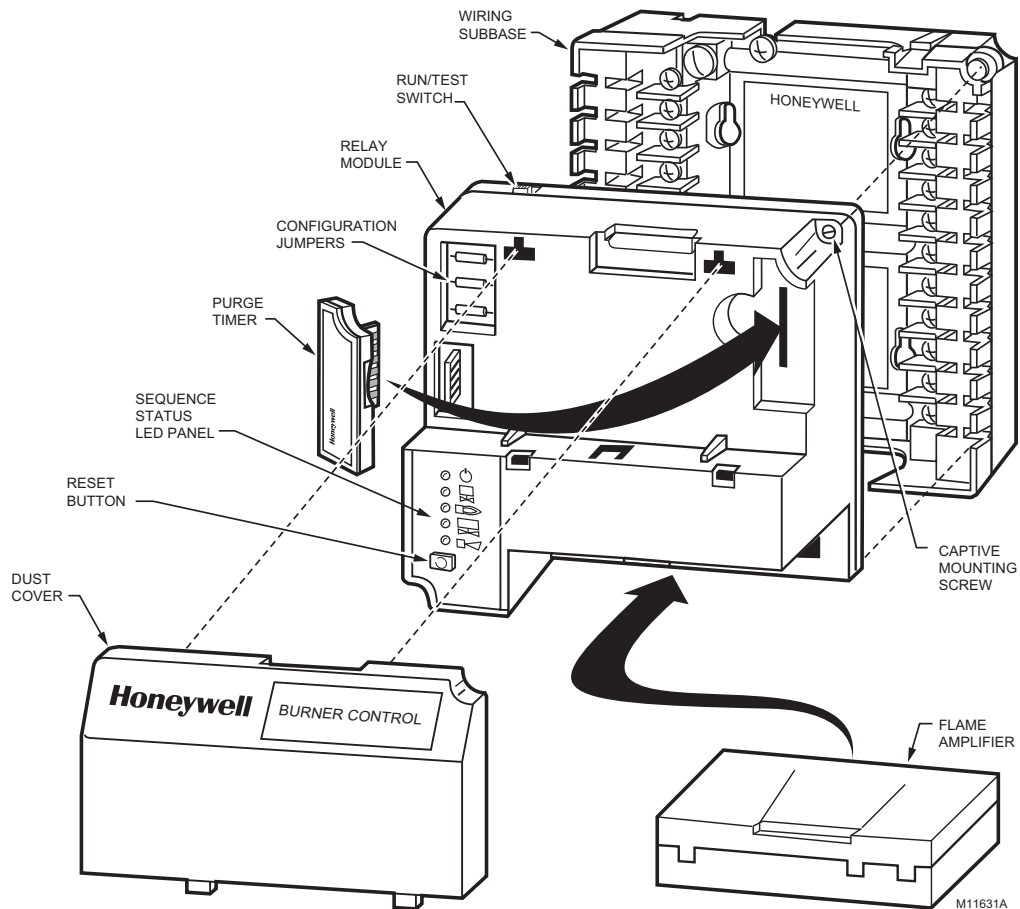

Fig. 5. 7800 SERIES Relay Module exploded view.
5. Mount other required and optional system components by referring to Fig. 5 and the instructions provided with each component.